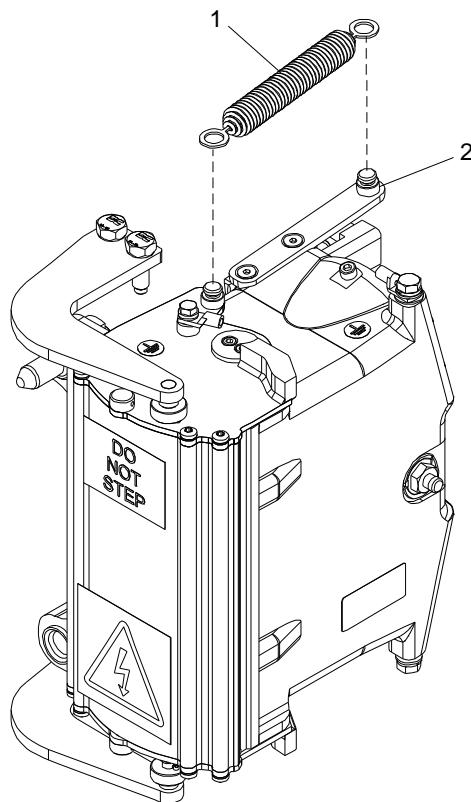

Figure 7-23: Replacement of Extension Spring
2. Unhook the spring (1) from the spring bracket (2). See Figure 7-23.
1. Fit the spring (1) to the spring bracket (2). See Figure 7-23.